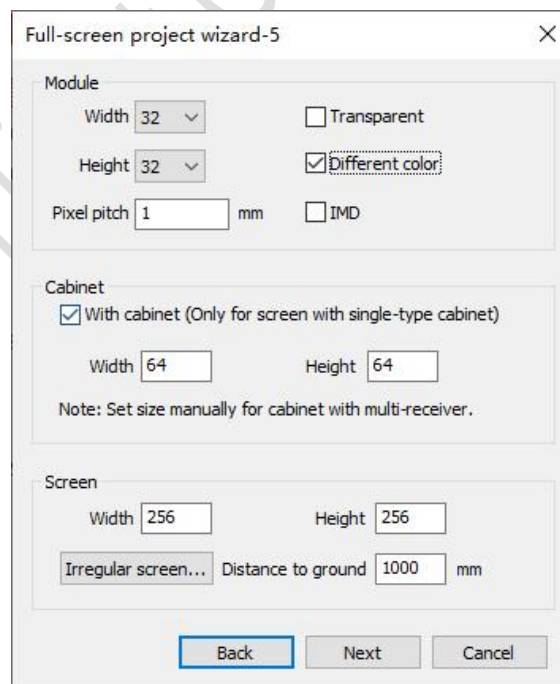

Fig.4-15 Full-screen project wizard-5
You can finish the setup of the module, cabinet, and screen in this step. See Figure 4-15.
- ◆ **Curved screen:** Select this checkbox when the screen is a curved one assembled by modules with the same LEDs in row and in column. You should also enter a value in the **One-fold Width** input box for a curved screen according to the real situation. See Figure 4-15.